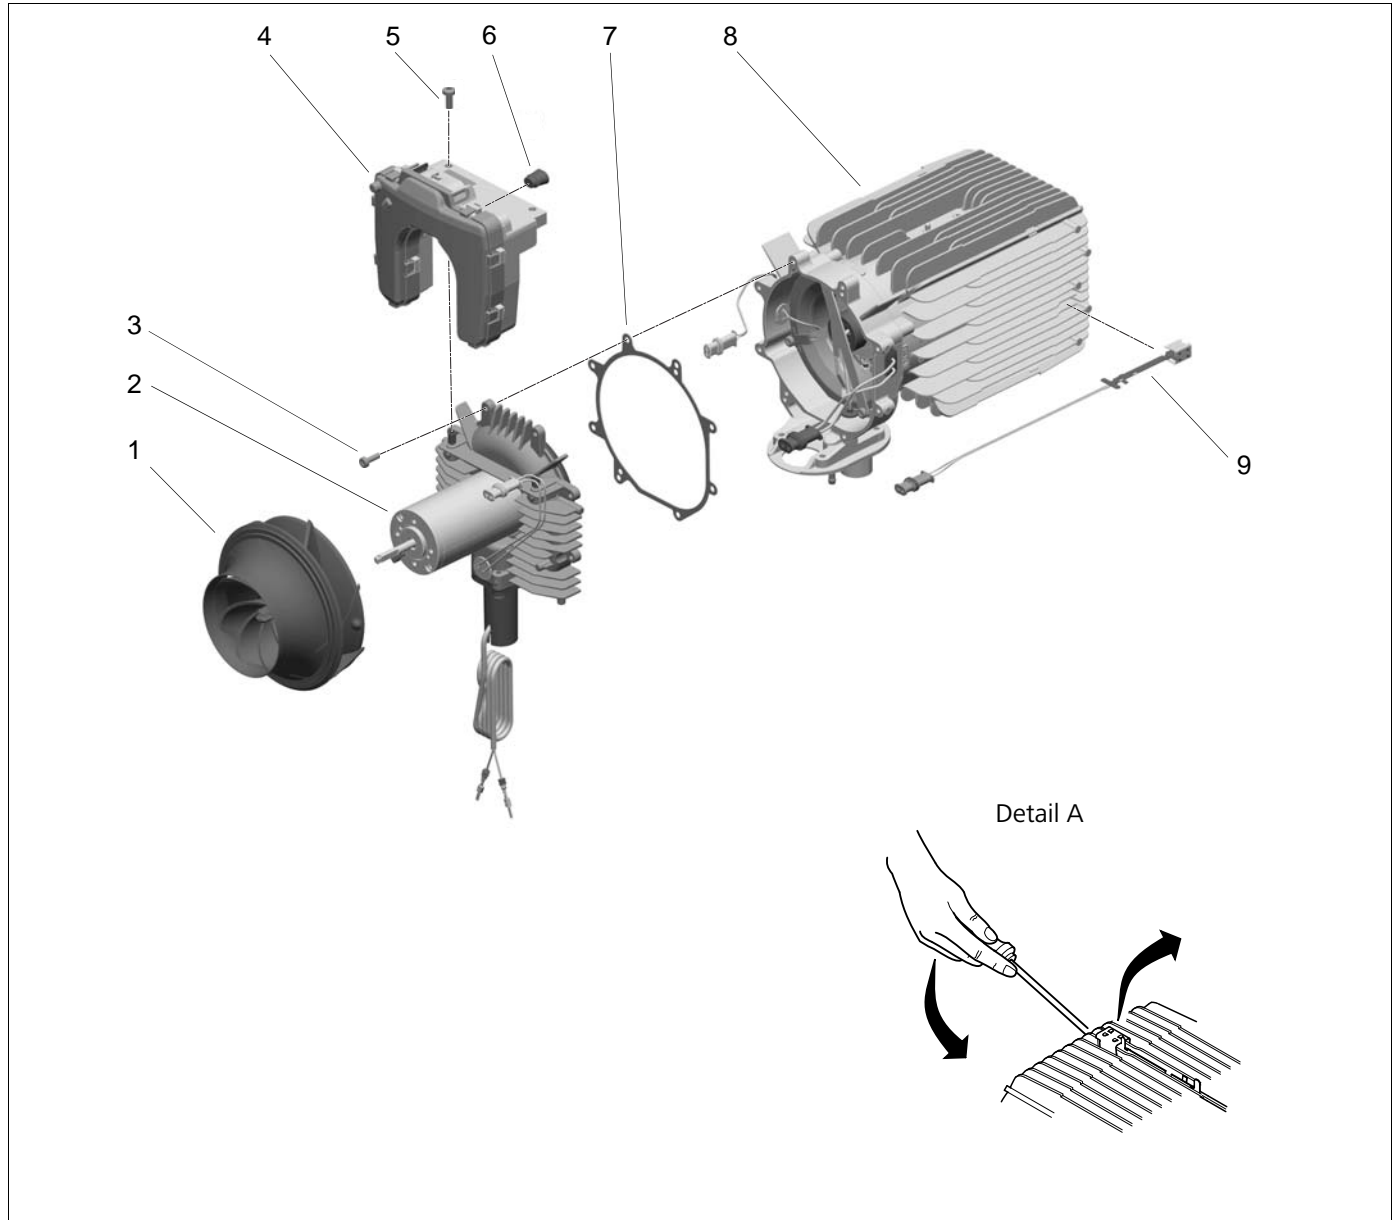

Fig. 903 Replace control unit, blow-out temperature sensor, heating air fan and drive unit
3. Remove screws (5, Fig. 903).
4. Disconnect connectors on control unit (4).
5. Pull out control unit (4) upward.
2. Fasten control unit (4, Fig. 903) with screws (5).
3. Tighten screws (5) to  $3.0 \pm 0.3$  Nm.
3. Disconnect plug connection X3 from control unit (4, Fig. 903).
3. Position a pair of long-nose pliers from the front between the two locking lugs on the motor shaft. Hold heating air fan (1, Fig. 903) with one hand and simultaneously and carefully spread two lugs with a slight twisting movement. Pull off heating air fan (1).
2. Slide heating air fan (1, Fig. 903) onto motor shaft until engaging of lugs on both sides is audible at stop.
4. Check smooth running of heating air fan (1) by hand, then listen for any noises when switching on later. The sensor magnets on the heating air fan (1) must be free from chips containing iron, etc.
Only replace the drive unit (2, Fig. 903) with a drive unit with the same performance data and the same ID No.
1. Make sure that sealing surfaces on drive unit (2, Fig. 903) and on heat exchanger (8) are not damaged.
2. Lay new flat seal (7) on flange of drive unit (2).
3. Move drive unit (2) into assembly position and secure it with screws (3).
4. Tighten screws (3) to  $6.0 \pm 0.6$  Nm.
6. Fit heating air fan (1) (see 9.2.5.2).